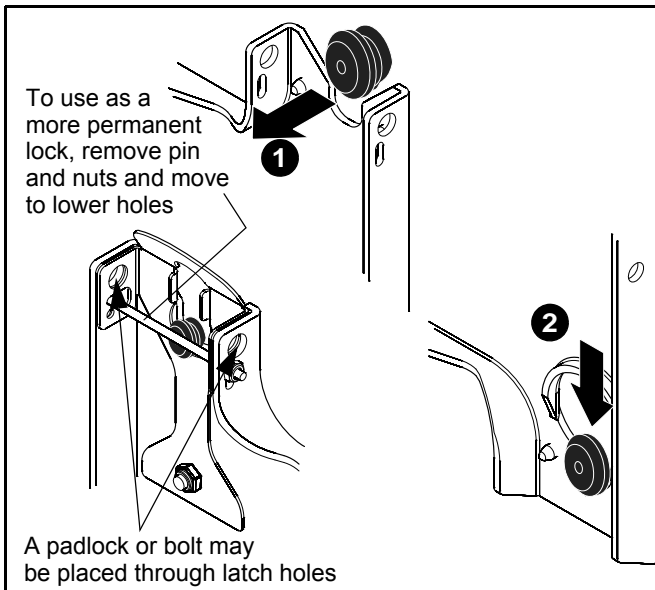

Figure 6
**NOTE:** Holes are provided in the faceplate for use with a padlock or similar locking device, if desired. In addition, the pin and nut may be removed from the upper holes and moved to the lower holes for use as a more permanent locking device. (See Figure 6)